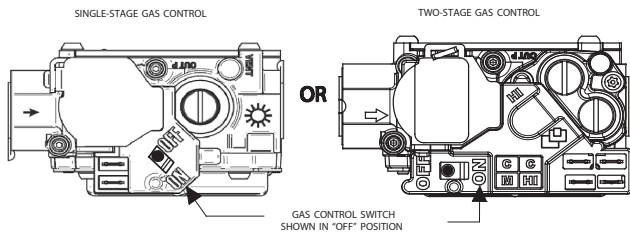

Fig. 18 - Control Switch to OFF
5. Turn control switch on the gas control to OFF position. See Fig. 18.